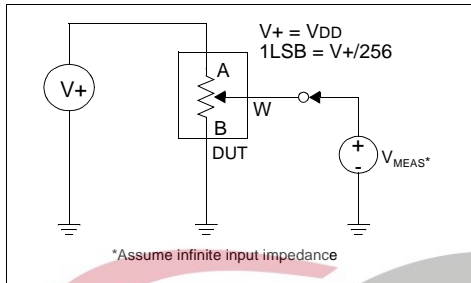

Figure 2-25: Potentiometer Divider Non-Linearity Error Test Circuit (DNL, INL)
- 9: See Figure 2-25 for test circuit.